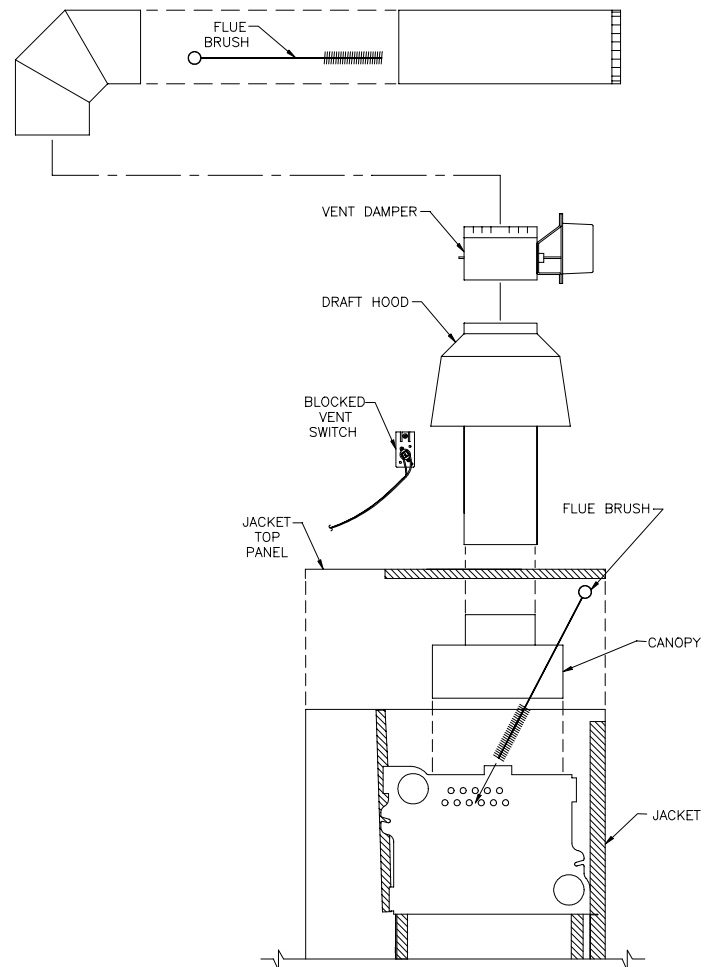

Figure 29: Cleaning of Vent System and Boiler Flues
- G. Remove all accumulations of soot with wire brush and vacuum, see Fig. 29. Remove all obstructions. Replace all deteriorated parts and support properly. Seal all joints.
3. CLEANING BOILER FLUES, see Fig. 29.
If the flue passageways need cleaning, remove burners as described in paragraph 4 below. Using long handle wire or bristle flue brush and vacuum, brush flueways thoroughly from top of boiler as illustrated in Fig. 29. Replace canopy and seal with boiler putty. Reinstall Jacket Top Panel, draft hood, blocked vent switch, damper (if boiler is so equipped), and vent pipe.